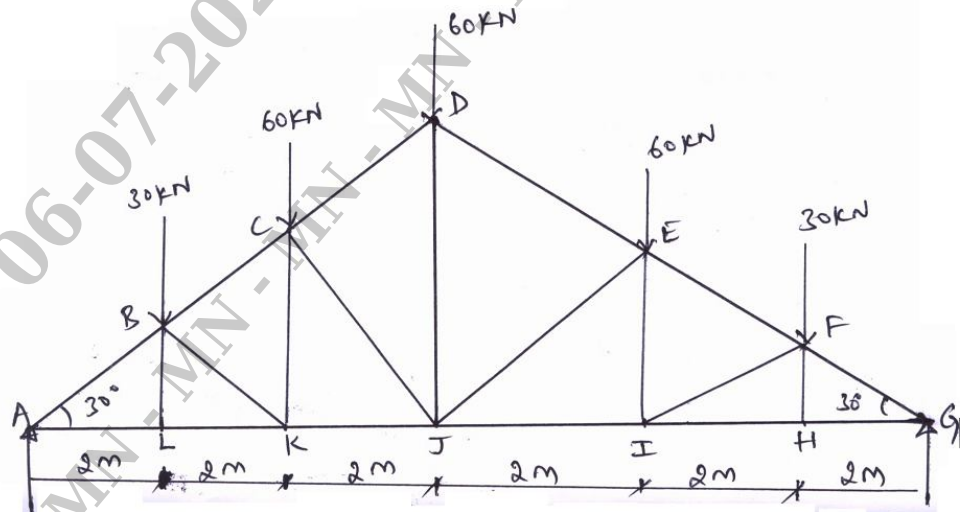

Fig. Q3
- 3 A line diagram of a roof truss with internal loads and forces in each member are shown in Fig. Q3. Design the various members of the roof truss along with their end connection with bolt of property class 5.6. Also design the bearing plate at support for the reaction and anchor bolts for an uplift force of 15 kN. Also draw the Elevation of truss greater than half plan.